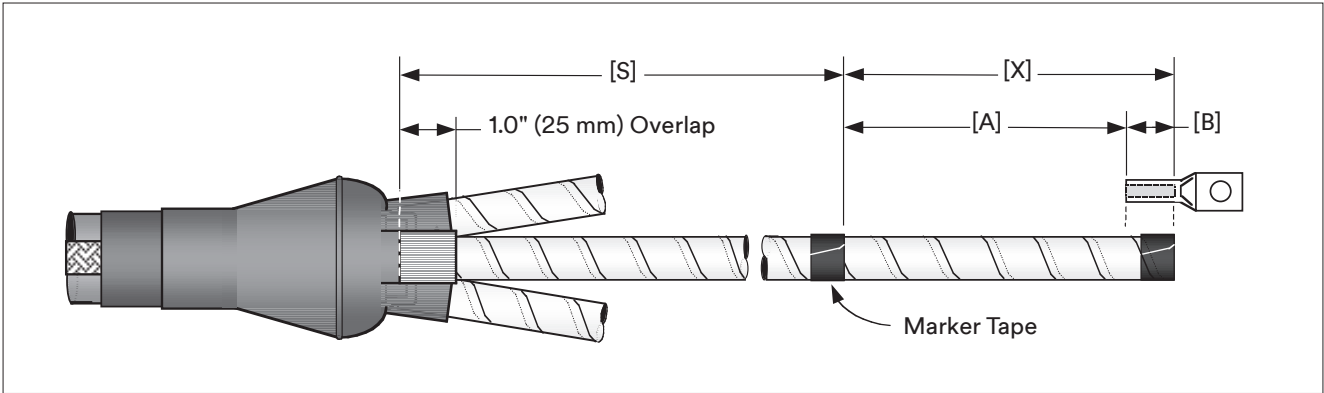

Figure 14
5.1 Place a vinyl tape marker on each cable phase leg at dimension [X] (Figure 14).
5.2 Determine required rejacketing sleeve length for each phase leg (Distance [S], Figure 14). Be sure to include 1.0" (25 mm) breakout boot finger overlap in measurement.